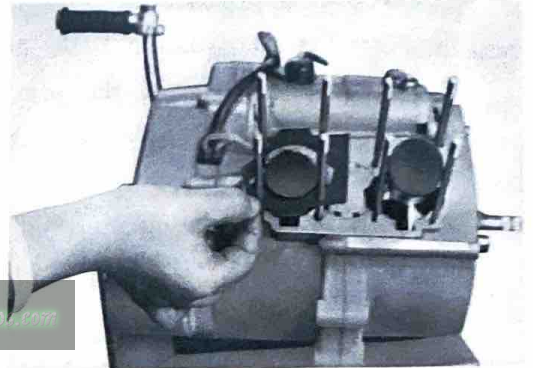

Fig. 4-3-7
- a. Always use new cylinder gaskets when overhauling the engine. (Fig. 4-3-7)